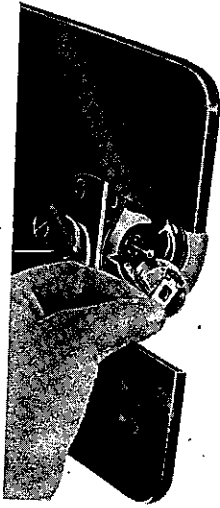

Fig. 17
- d. Lift latch of bobbin case (Fig. 17) with thumb and forefinger of left hand, and remove bobbin case by pulling it toward the left and out of the machine.